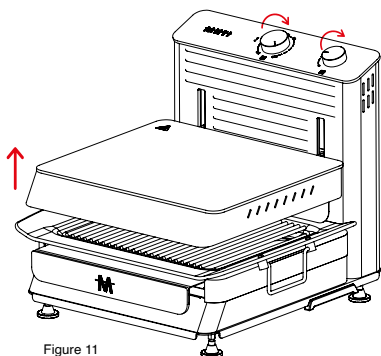
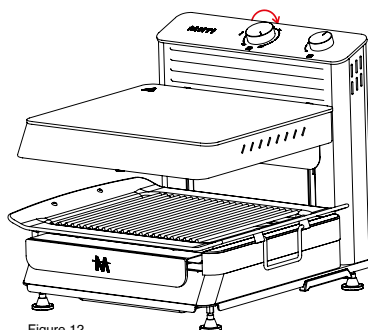

Figure 11
Figure 12
- Turn the on/off switch on the back of the product to position (I).
- To move the adjustable cooking section, turn the lower-upper distance adjustment knob clockwise and bring the upper section to maximum height (Figure 11- Figure 12).
- Turn the power setting button to 100 and run the product for approximately ~ 5-10 minutes without any load and then turn it off. In this way, any waste and layers that may have remained in the product during production will be burned and cleaned. During this process, a one-time odor and smoke may come out of the product due to the heating elements. Ventilate your environment to avoid being bothered by the odor and smoke. (Figure 12).